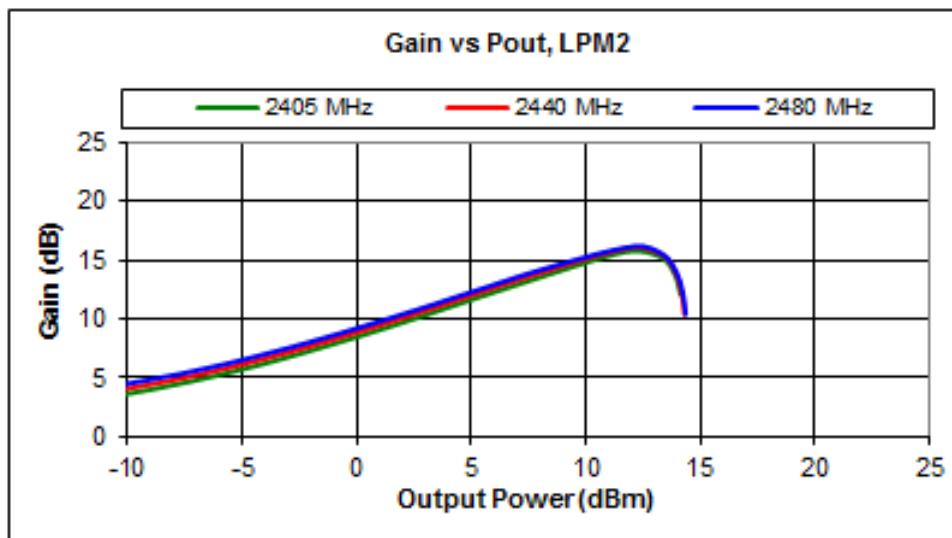

Figure 12: SKY66112-11 Gain vs. P_{OUT}, LPM2
- **LPM2:** Low Power Mode 2, where VCC2 = 1.2 V, VCC1 = 1.8 V and VDD = 3.0 V @ P_{OUT} = +13 dBm, P_{IN} = -3 dBm (see Figure 12).